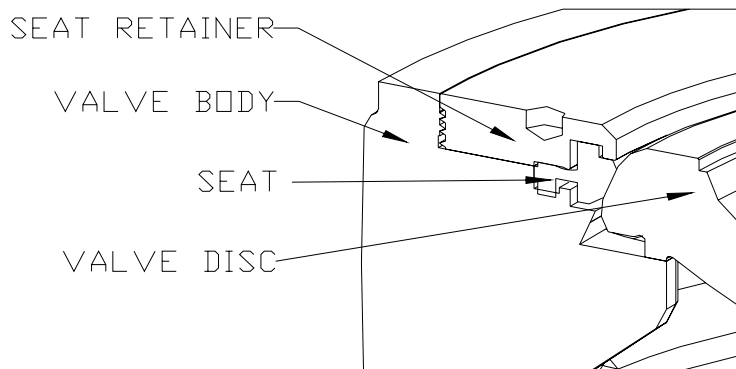

Fig. 4-1 VF-910
- c. Insert the seat retainer to the mounting groove for the seat retainer. Due to the same reason as b, the seat and the seat retainer is somewhat floating (Fig. 4-1/4-2/4-3).